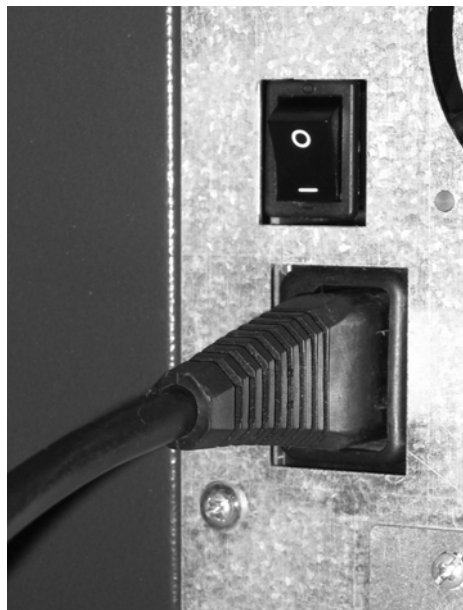

Fig. 4 – Connection of power cord and ON/OFF switch
- Attach the AC power cord to the AC power receptacle in the rear of the printer (Fig. 4).